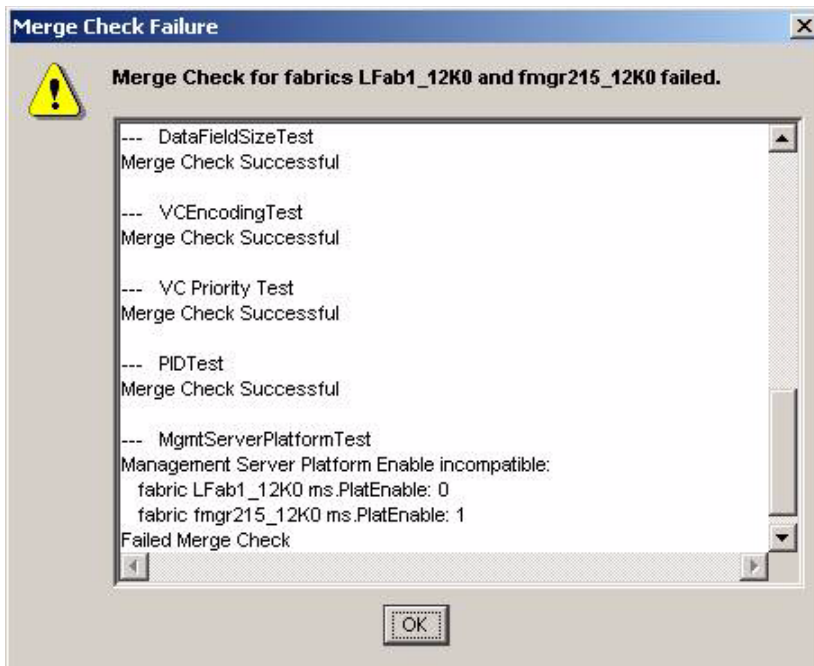

Figure 187 Merge failure check
- Noncompatible parameters; a failure notice is displayed (see Figure 187). Click **OK**, and then exit the Merge Secure Fabrics wizard and fix the incompatibility through the CLI. After fixing the